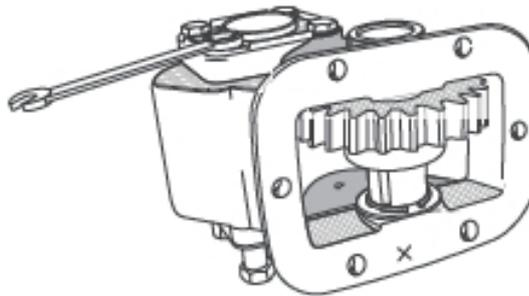

Figure 3 Removing the Bearing Cover Plate
- h. Remove the four bolts securing the drive shaft bearing cover plate to the housing and remove the cover plate and gasket (Figure 3).